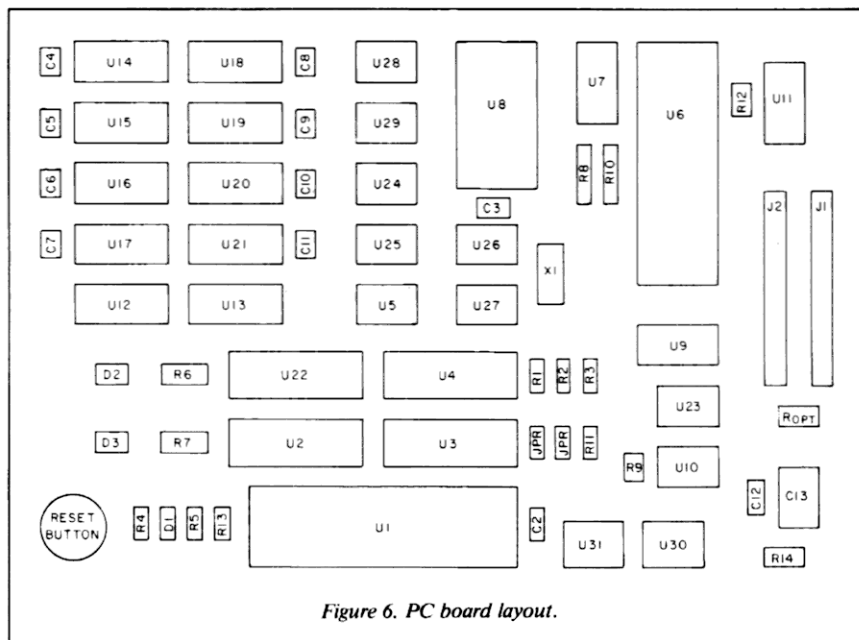

Figure 6. PC board layout.
dition. Instead of leaving the three J1 lines floating, however, you should tie them to the appropriate levels for proper computer operation. Tie the J1-23 line to ground, and tie the J1-25 and J1-28 lines together and to a 1K ohm resistor (ROPT in Fig. 6) which goes to the +5 volt (V) supply.